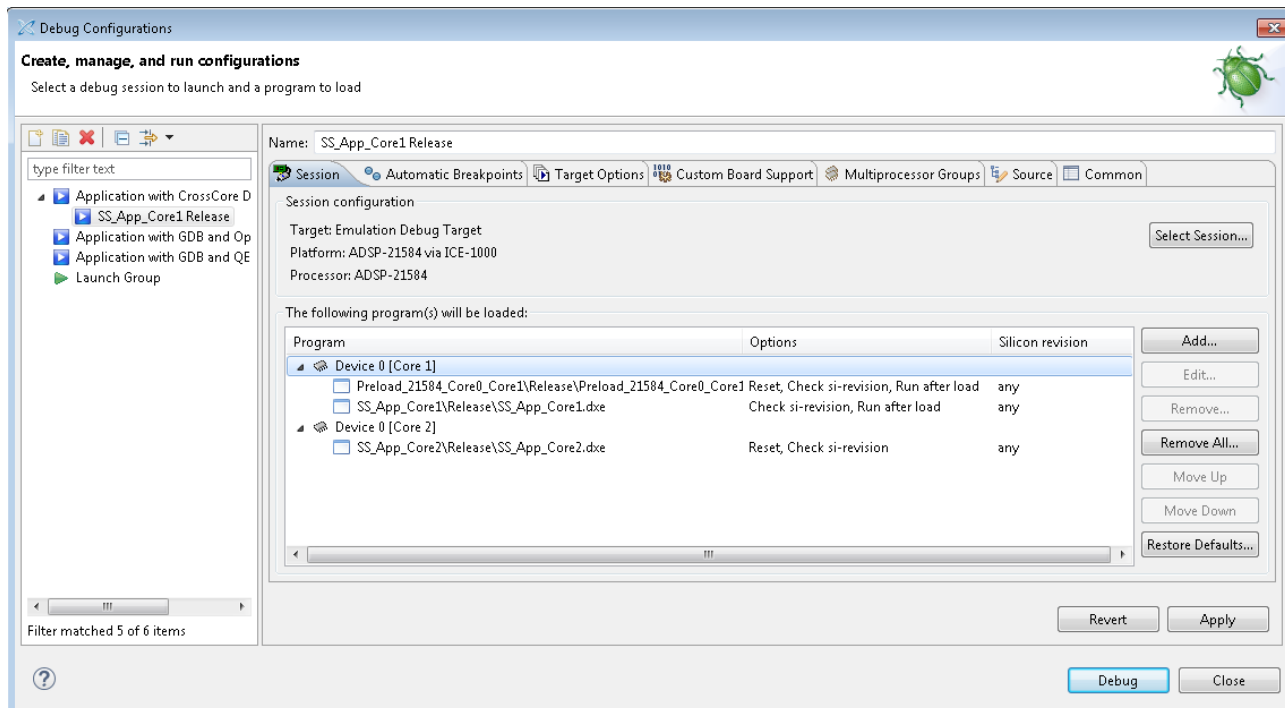

Figure 17: Debug Configuration
6. Load the prebuilt DXE's for appropriate target '21584_preload_Core1.dxe' or "21573_preload_Core1.dxe" for 21584 and 21573 respectively, and "SS_App_Core1.dxe" on Core 1 and 'SS_App_Core2.dxe' on Core 2 as shown in Figure 17. Prebuilt DXEs of each project can be found inside the respective 'Release' folders of each of the projects. Prebuilt preload DXEs ADSP-21593 target will get automatically loaded from "C:\Analog Devices\CrossCore Embedded Studio 2.10.1\SHARC\ldr" path.